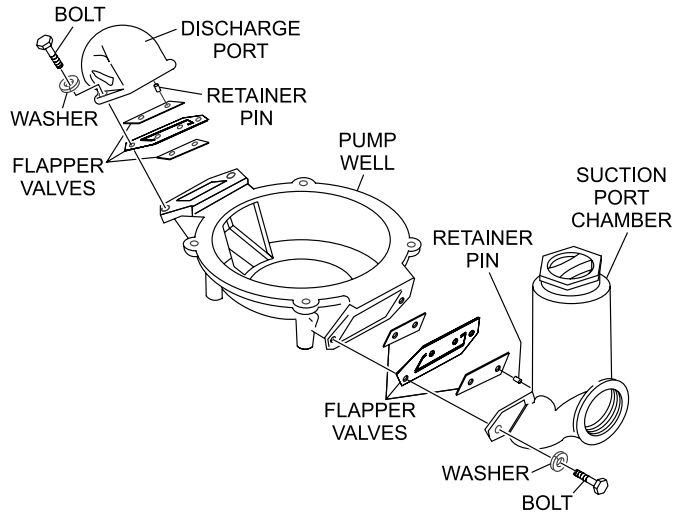

Figure 21. Flapper Valve Replacement
1. Remove the two bolts that secure the suction port chamber (Figure 21) to the pump well. Remove suction port chamber. Replace valves as required and reassemble.